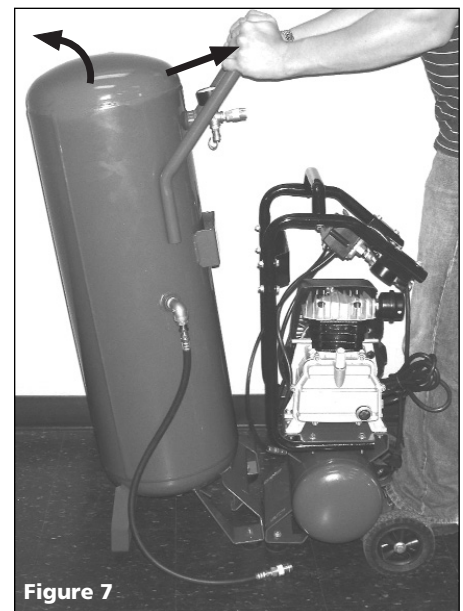

Figure 7
2. Lean back and slide forward the Large Tank so that the mounting pins on the Large Tank engage into the holes on the Small Tank (See Figure 7).